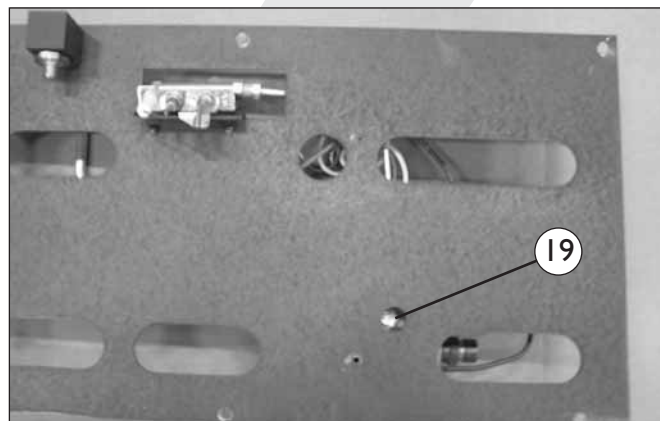

Fig. 19
4. **Fine adjustment jet** (fig. 19)